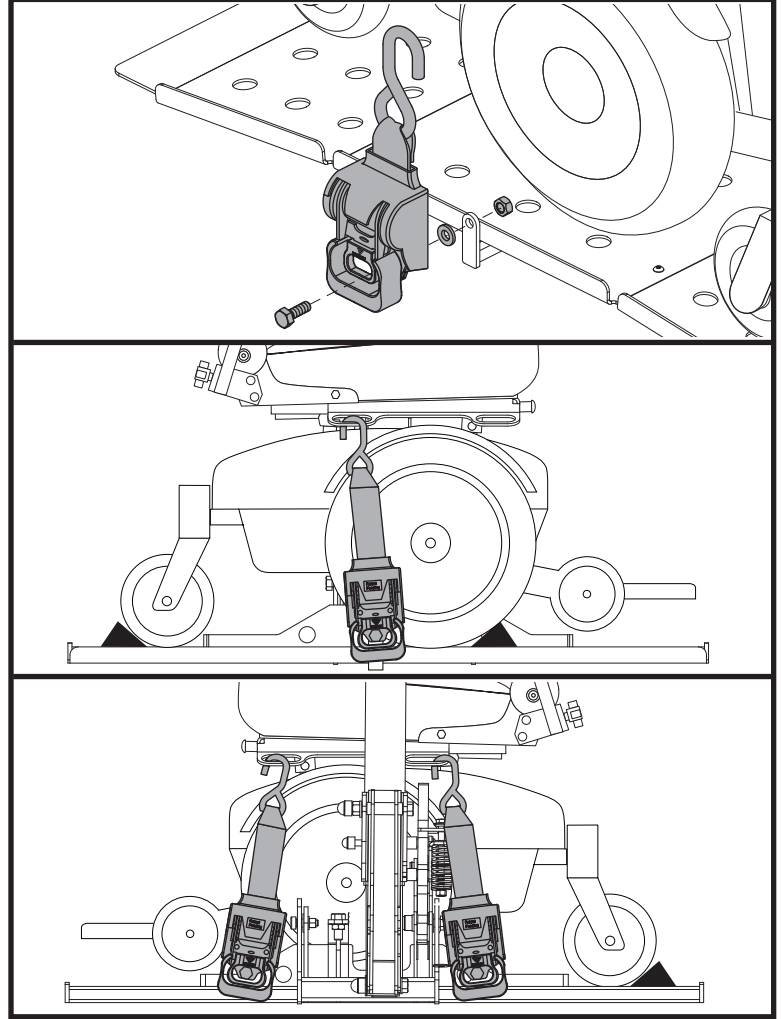

Figure 6. Retractable Tie-down Strap Installation
2. Align the meeting position on strap to the desired mounting point hole on the full platform. **See figure 6.**
3. Install the hardware. **See figure 6.**